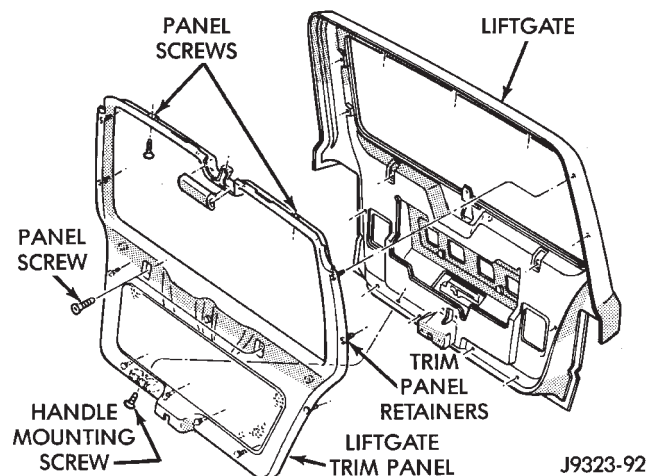

Fig. 21 Liftgate Trim Panel
- (1) Remove the CHMSL access panel. Remove the 6 screws that attach liftgate panel to liftgate (Fig. 21).
- (3) Install screws to attach panel to liftgate (Fig. 21). Tighten screws securely.
- (1) Open liftgate. Support liftgate for ease of repair.
- (2) Remove liftgate trim panel (Fig. 21). If necessary, refer to removal procedure.